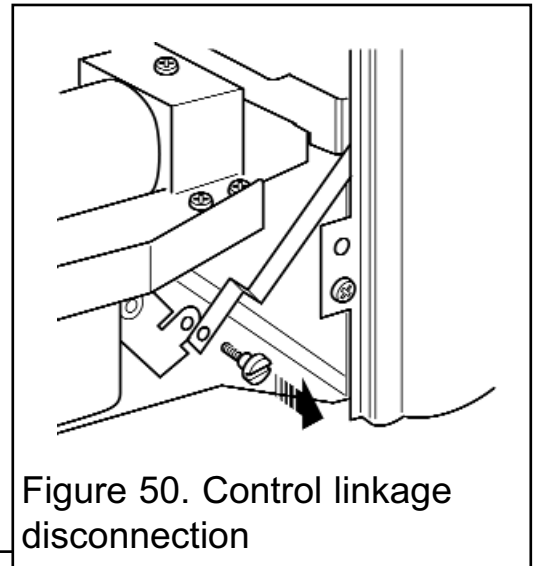

Figure 50. Control linkage disconnection
2. Detach the control-linking bar from the control pivot bracket by removing the knurled screw, which joins the control linking bar to the control pivot unit (See figure 50).